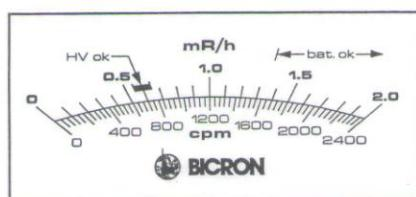
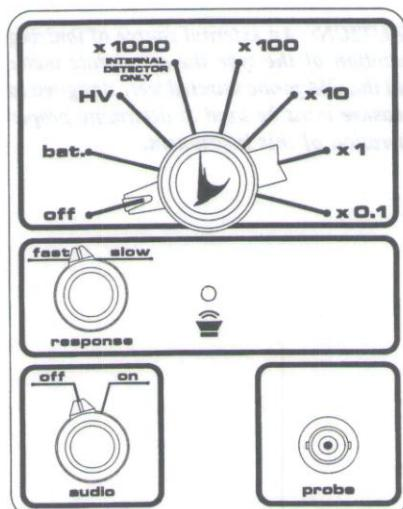

Figure 1
Figure 2
To check the condition of the battery turn the Control Switch to the "bat." position (Figure 2). If the battery has sufficient charge, the meter will read within the "bat. ok" range (Figure 1).
To check the high voltage setting turn the Control Switch to the "HV" position (Figure 2). If the high voltage is correctly set, the meter will read within the "HV ok" range (Figure 1).
1. When using an external GM probe, select the appropriate response time (Section 4.2 Selectable Response Time) and measurement range (Figure 2). Use only the "X0.1", "X1", "X10", or "X100" ranges. Read only the cpm scale unless using a SWGM (side-wall GM) or EWGM (end window GM) probe which has been calibrated in mR/h with the unit.